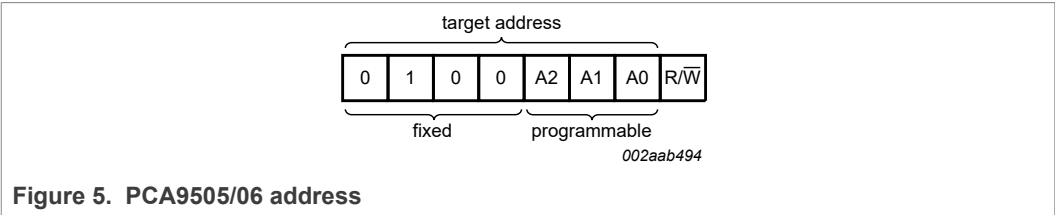

Figure 5. PCA9505/06 address
Following a START condition, the bus controller must send the address of the target it is accessing and the operation it wants to perform (read or write). The address of the PCA9505/06 is shown in Figure 5. Target address pins A2, A1, and A0 choose 1 of 8 target addresses and need to be connected to V_{DD} (1) or V_{SS} (0). To conserve power, no internal pull-up resistors are incorporated on A2, A1, and A0.